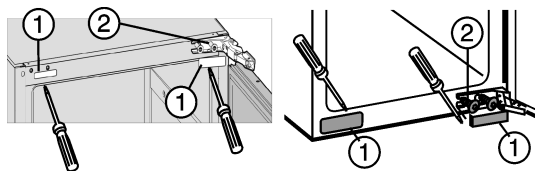

Fig. 5
- ▶ Lift off covers *Fig. 5 (1)*.
- ▶ Only slacken fastening screws *Fig. 5 (2)*.
- ▶ Transfer top and bottom fastening screws *Fig. 5 (2)* to the opposite side.
- ▶ Attach appliance door to the prefitted fastening screws *Fig. 5 (2)*.
- ▶ Screw in mounting screws *Fig. 5 (2)* **tightly (4 Nm)**.
- ▶ Re-fit covers *Fig. 5 (1)*.